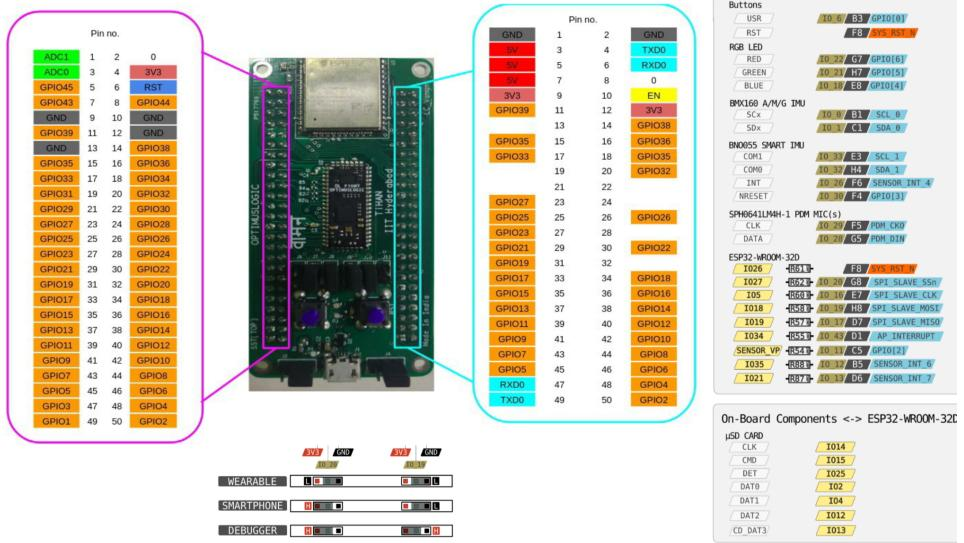

Fig. 10.1: Vaman pins. Right side represents ESP32 and left side M4-FPGA (Pygmy).
3. The Vaman pin diagram is available in Fig. 10.1.